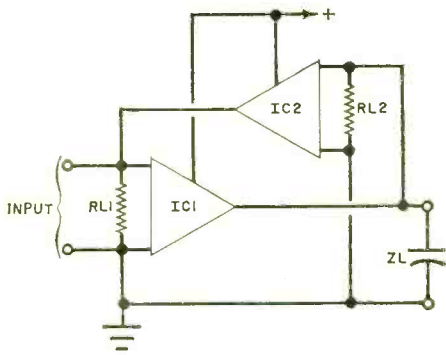

Fig. 5. The gyrator concept is used to transform a load impedance into its electrical equivalent. Back-to-back amplifiers form a two-port network.
Gyration, anyone? Dubbed a *gyrator* because its electrical action is analogous to that of a mechanical gyroscope, the circuit illustrated in Fig. 5 has the interesting characteristic of being able to transform a load impedance into its "dual" electrical equivalence. Thus, a load capacitor (ZL) connected across its output acts as a high- Q inductance at the circuit's nominal input terminals.